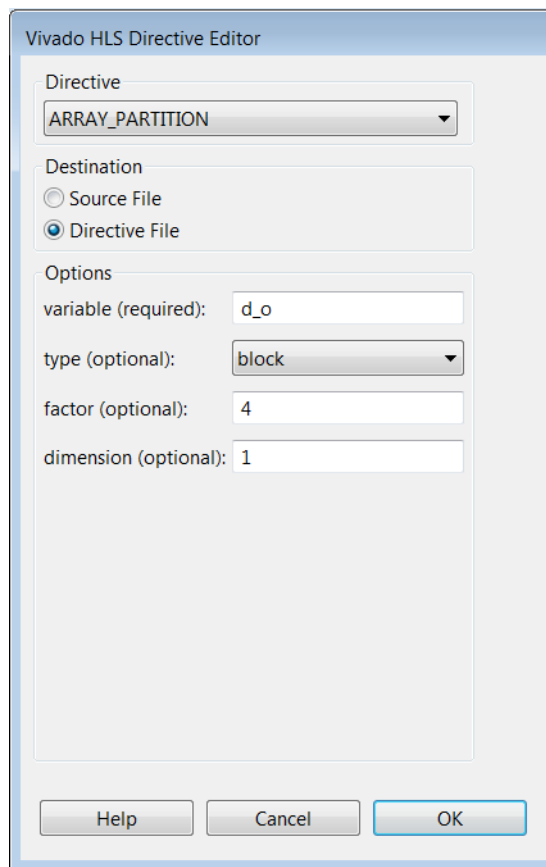

Figure 4-21: Directives Editor for Partitioning Array d_o
- d. With the Vivado HLS Directive Editor as shown in Figure 4-21, click **OK**.